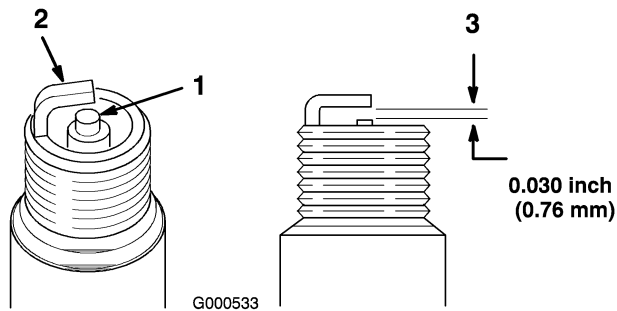

Figure 31
1. Look at the center of the spark plug (Figure 31). If you see light brown or gray on the insulator, the engine is operating properly. A black coating on the insulator usually means the air cleaner is dirty.
2. Check the gap between the center and side electrodes (Figure 31). Bend the side electrode (Figure 31) if the gap is not correct.